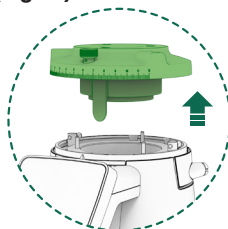

Fig. 14
**12.3.9.** Lift the grind regulator (16) to access the grinding cavity. Clean the interior using a brush or vacuum cleaner to remove all coffee residue (**Fig. 14**).